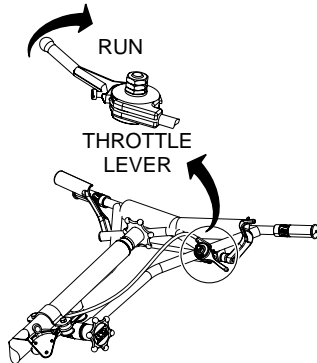

Figure 32. Throttle Lever (Run)
1. To begin troweling, place the throttle lever (Figure 32) in the "RUN" position.